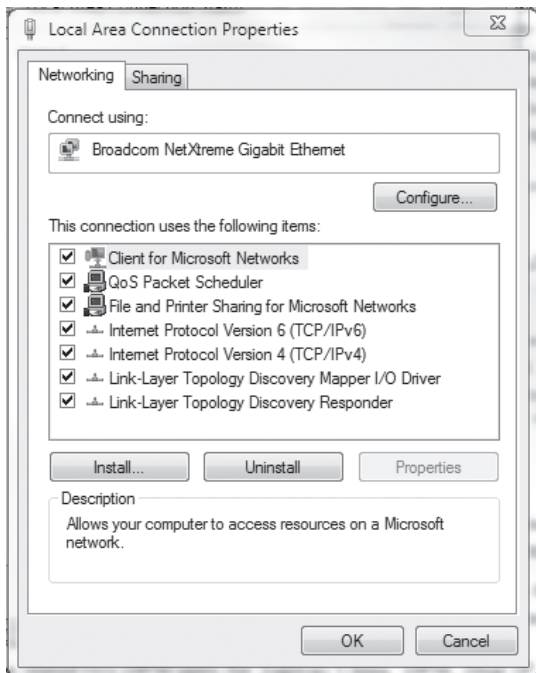

Fig. 3-3, Windows 7® Local Area Connection
6. In the dialog box (Fig. 3-3), select **Internet Protocol Version 4 (TCP/IPv4)** and then click **Properties**.